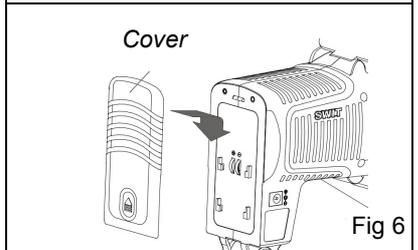

Fig 6
- ① Make sure the light is switched off (turn the switch to "O"). Plug the pole end of S-7104 into the DC-IN socket.
- ② Plug the D-tap end of S-7104 to the camera auxiliary power tap or the battery's D-tap output socket. See Fig 6.
- ③ For third-party DC cables, please make sure the DC connector is 5.5/2.1mm pole and input voltage should be 6-17V; and inner: positive, Outer: negative.